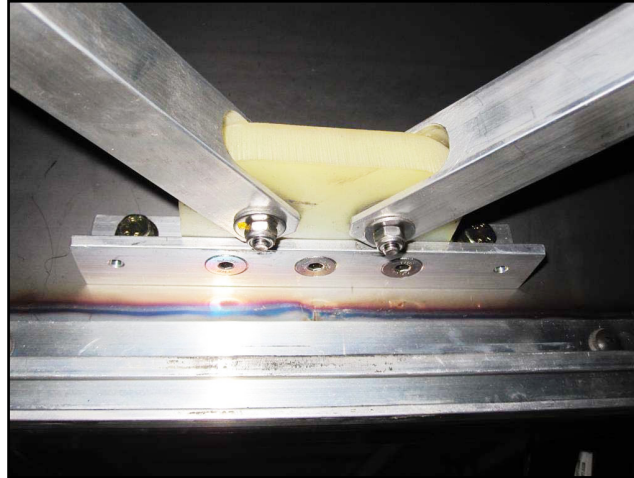

Figure 16 - Bolt the Stabilizer Arms
- 1.20. Bolt the stabilizer arms on their respective brackets in the front and rear sections of the vehicle. See Figure 16. The bolt head must be on the top and the nut on the bottom. Apply 6.6 lb-ft (9 N•m) of torque. Apply anti-tamper seal. Reinstall the protective caps on the head of the bolts.